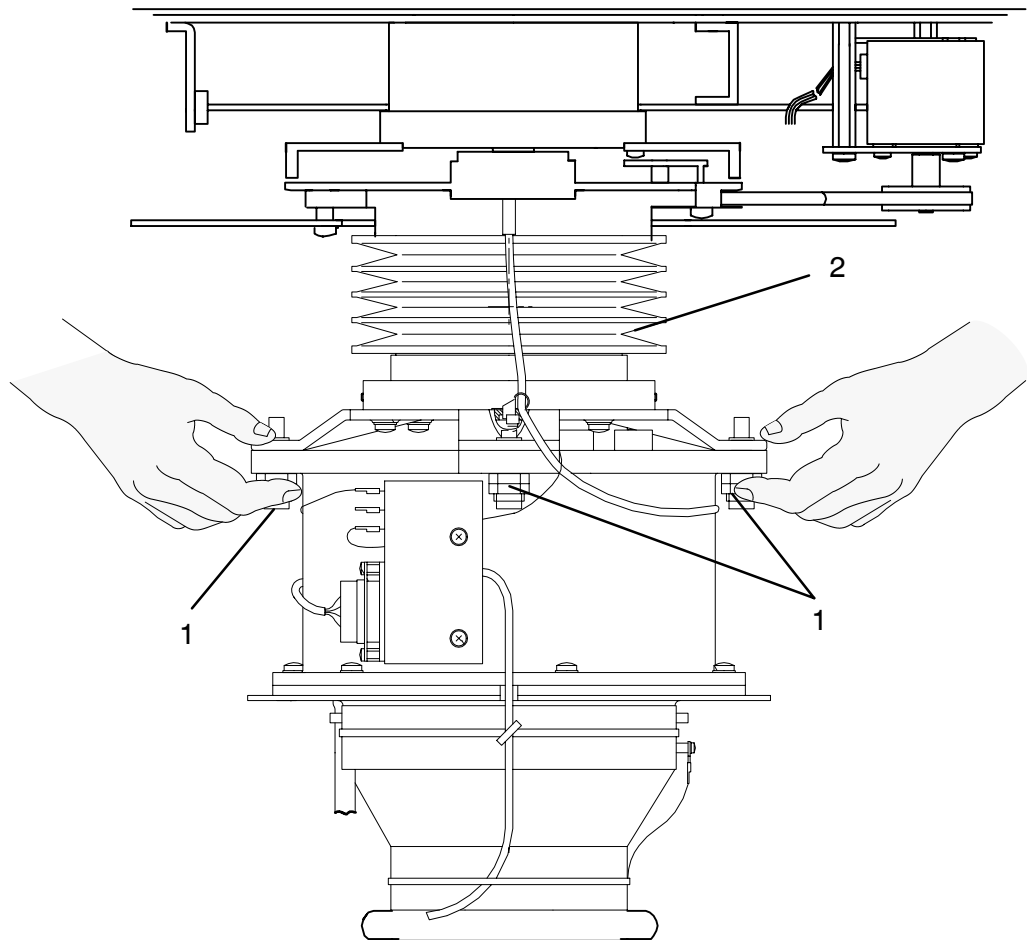

Figure 48: Principle of inserting the outer sphere in the compass enclosure
(see Figure 48)
- Using both hands, hold the outer sphere and guide it under the snap closures (Figure 48/1) on the pendulum joint (Figure 48/2).
- Using the thumbs, press down and engage two snap closures (Figure 48/1).